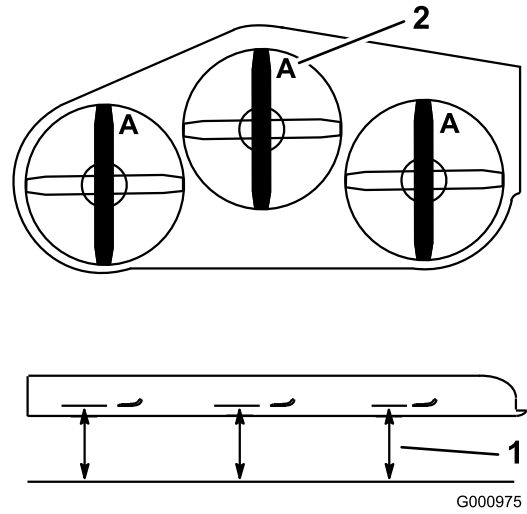

Figure 81
3. Rotate the blades until the ends face forward and backward. Measure from a level surface to the cutting edge, position A, of the blades (Figure 81). Note this dimension.